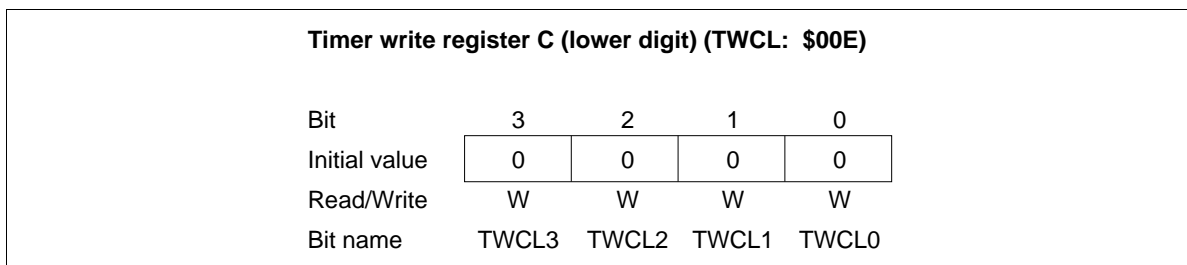

Figure 55 Timer Write Register C Lower Digit (TWCL)
- Timer write register C (TWCL: \$00E, TWCU: \$00F): Write-only register consisting of a lower digit (TWCL) and an upper digit (TWCU) (figures 55 and 56). The operation of timer write register C is basically the same as that of timer write register B (TWBL: \$00A, TWBU: \$00B).